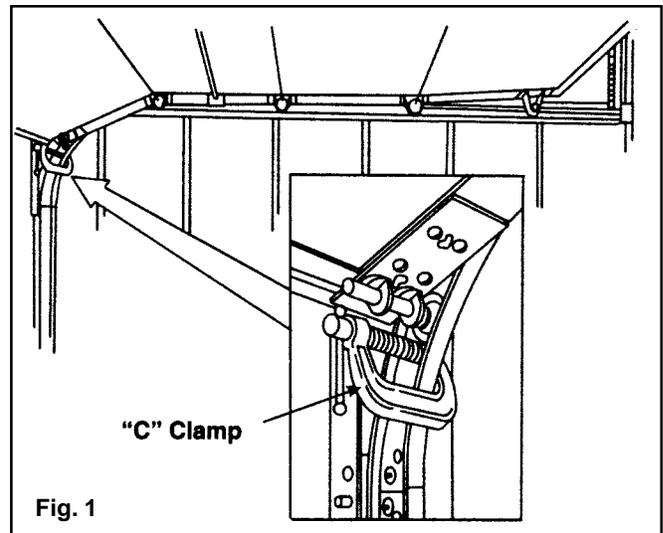

Fig. 1
**Step 1a:** Raise the door to the full open position. Place “C” clamps or locking pliers tightly on both sides of the track under the door so the door is held securely in place. With the door fully open, most spring tension has been removed. (FIG. 1)